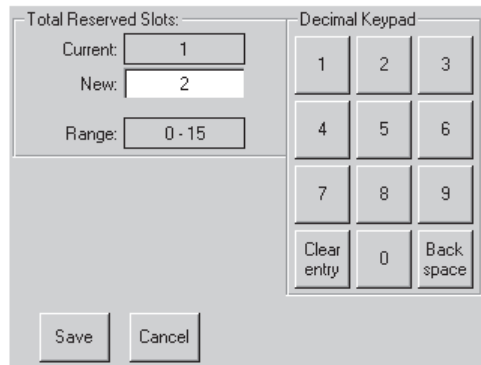

Figure 29. Reserved slots numeric keypad
3. Press the box next to the Total Reserved Slots option. A numeric keypad appears on the display as shown in Figure 29 on page 25.